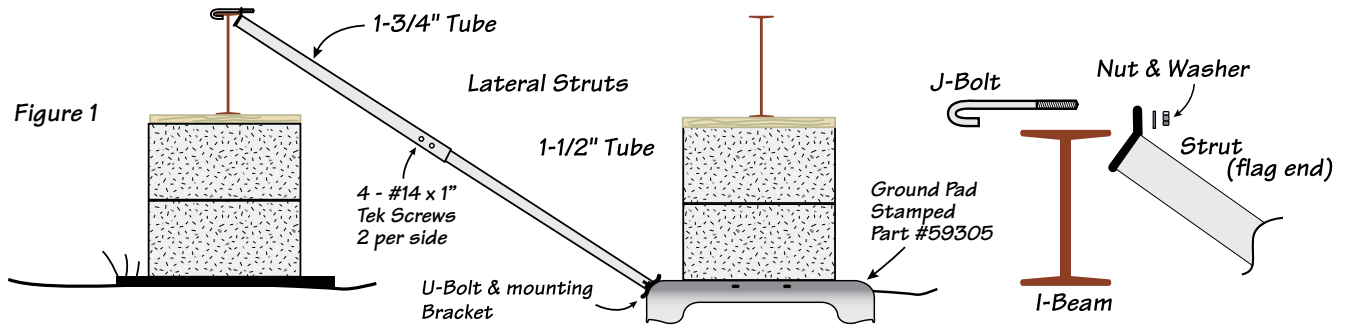

Figure 2
9. Attach the flag end of the larger tube to the opposite I-beam using the "J" bolt over the top of the I-beam with the nut & washer provided. (Figure 2)